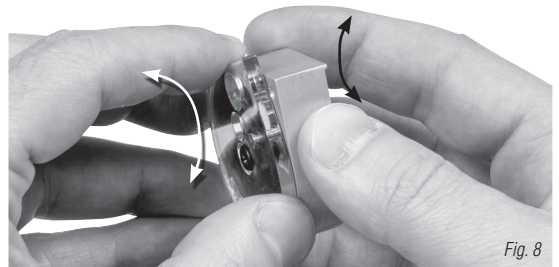

Fig. 8
4. Spinning the cover in the same direction and holding the magazine in a vertical position continue placing the pellets until the all positions are filled. Once the magazine is full, spin the aluminum side in the opposite direction and return the magazine to its initial position. (Fig. 8)